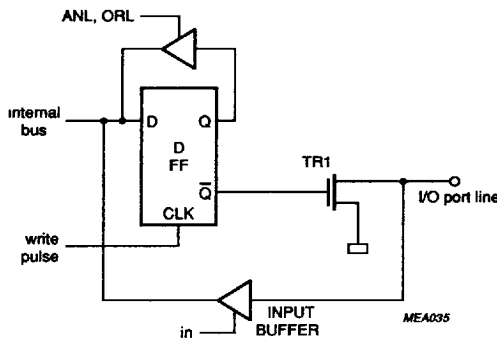

Fig. 15 Open drain I/O without pull-up transistor (option 3).
- **Option 3** OPEN DRAIN I/O WITHOUT PULL-UP; open drain output without pull-up transistor (see Fig.15). Application as an output requires the connection of an external pull-up resistor.